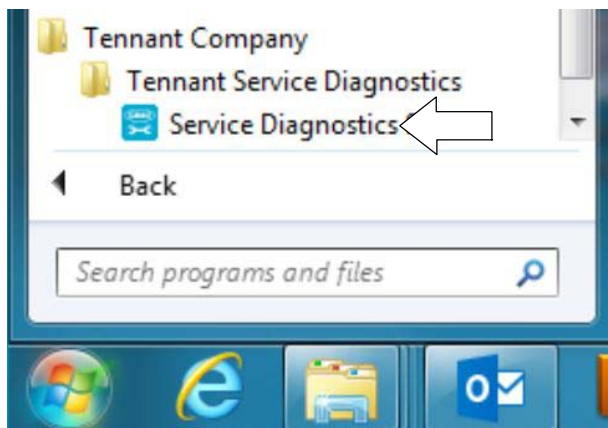

Fig. 9
2. Start the Service Software Application program “**Service Diagnostics...**” (Figure 1). Refer to Figure 9 for further details.
The software is pre-installed on your computer as shown below. The software application is titled “**Service Diagnostics**” (Figure 9).
7. After the service application software is installed on your computer, refer to figure 9 to access the program.
5. After the software is installed on your computer, refer to figure 9 to access the program.